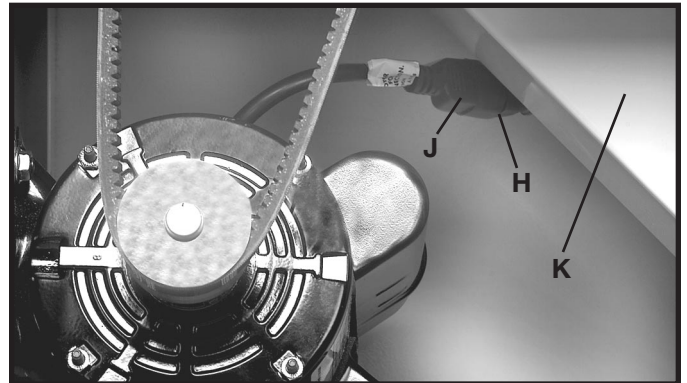

Fig. 40
8. Insert the pronged motor plug (J) Fig. 40, into the receptacle (H) of switch cord.
CAUTION MAKE SURE THAT THE MOTOR PLUG (J) FIG. 40 AND THE SWITCH CORD (H) ARE ROUTED BEHIND THE DUST CHUTE (K). IF THE BAND SAW IS BEING USED WITH THE ACCESSORY HEIGHT ATTACHMENT THE THE CORD HAS TO BE ROUTED IN FRONT OF THE DUST CHUTE.